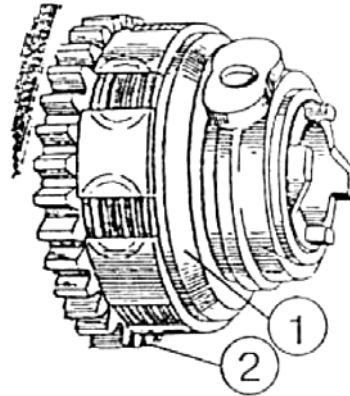

Figure 5.6
4) pull hydraulically squeezed clutch (1) out of GB body, (figure 5.6), as an assembly with gear 2;